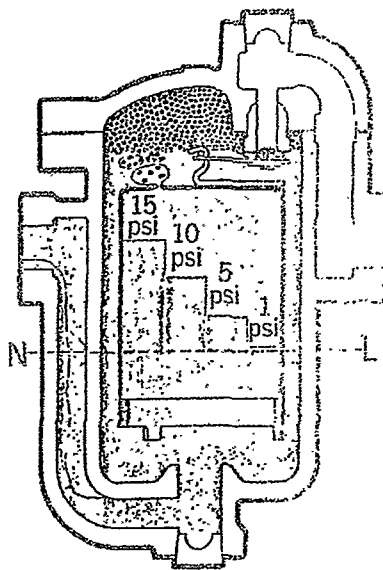

Fig. 3-1. Liquid levels in bucket for opening a  $\frac{3}{8}$ " orifice No. 214 or No. 814 trap at working pressures indicated.
Obviously at 15 pounds working pressure differential the full weight of the bucket is not required to open the valve. Instead of the 21 oz. weight to open at 21 psig only a 15 oz. weight is required for 15 psig. Fig. 3-1 shows the water levels in a No. 814 bucket required to open the valve at pressures from 15 psi down to only 1 psi.
3. When entering condensate brings the condensate level slightly above the neutral line the bucket exerts a slight pull on the lever. But the valve does not open until the condensate level rises to the opening line for the existing pressure differential between the steam and the condensate return header. (See Fig. 3-1)